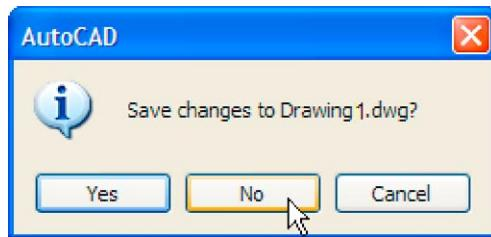

Fig. 2.5 The AutoCAD warning window
2. The warning window Fig. 2.5 appears in the centre of the screen. *Click* its No button.